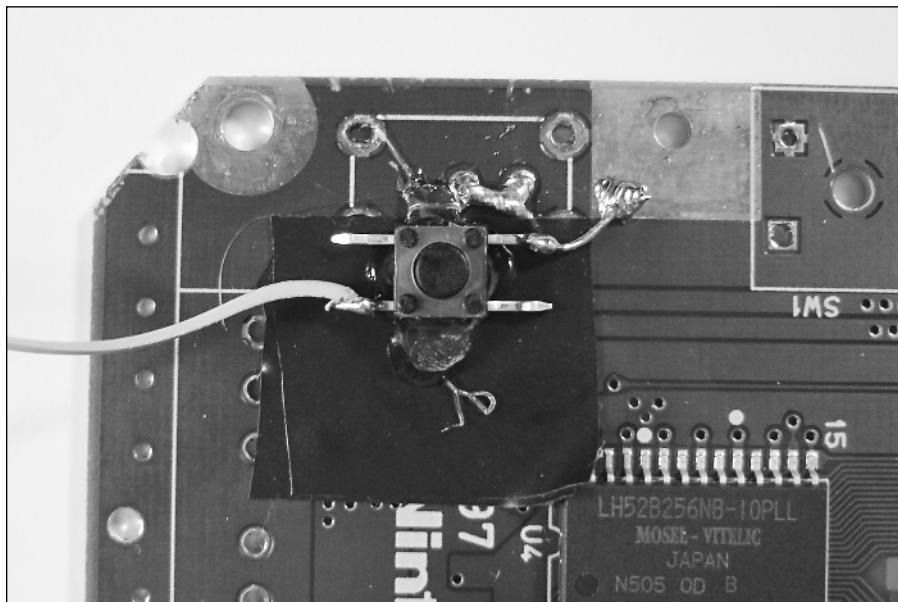

FIGURE 10-31: Placing a tact switch on SNES board and snipping the corner.
1. Take a look at Figure 10-31—it shows the corner of the SNES board where the power switch used to be. Put a couple layers of electric tape on the board as shown, then hot-glue a tact switch in place. Bend the leads out so that the switch can sit flat.
2. Use your cutters to snip the corner of the board away, also shown in Figure 10-31. This allows the SNES board to fit in the curvy-edged case.